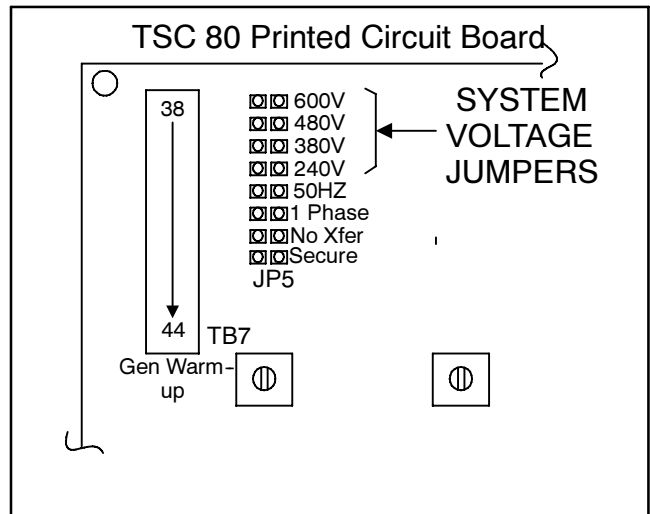

Figure 2 System Voltage Jumpers
5. Change voltage jumper setting to desired system voltage. See Figure 2.